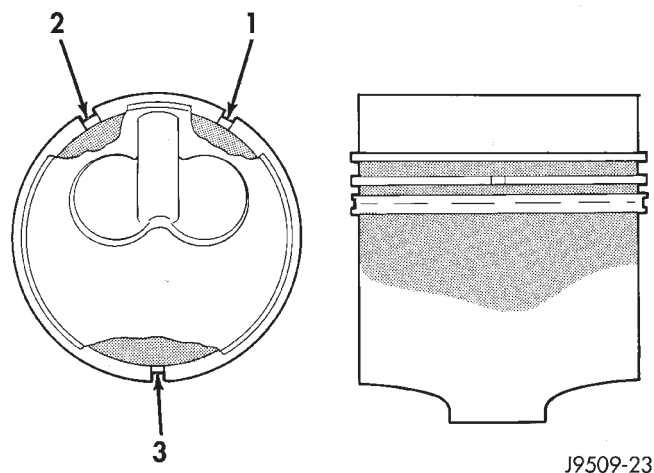

Fig. 47 Piston Ring Gap Location
(2) Top compression ring is tapered and chromium plated. The second ring is of the scraper type and must be installed with scraping edge facing bottom of the piston. The third is an oil control ring. Ring gaps must be positioned, before inserting piston into the liners, as follows (Fig. 47).
(1) Before installing pistons, and connecting rod assemblies into the bore, be sure that compression ring gaps are staggered so that neither is in line with oil ring rail gap (Fig. 47).
(2) Before installing the ring compressor, make sure the oil ring expander ends are butted and the rail gaps located as shown in (Fig. 47).